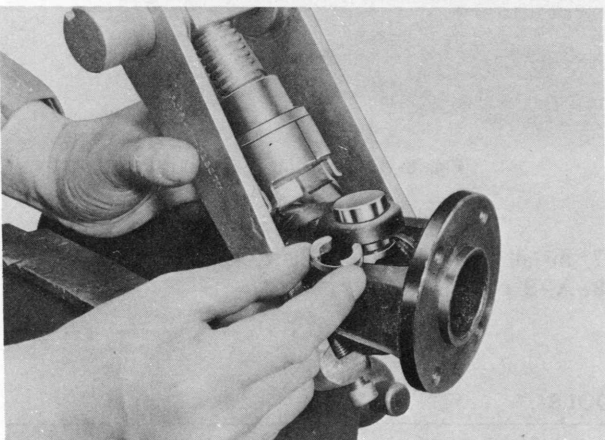

Fig. 8-6 Installing spacer
5. Loosen the center bolt and install the spacer between the yoke and the spider as shown in Fig. 8-6.